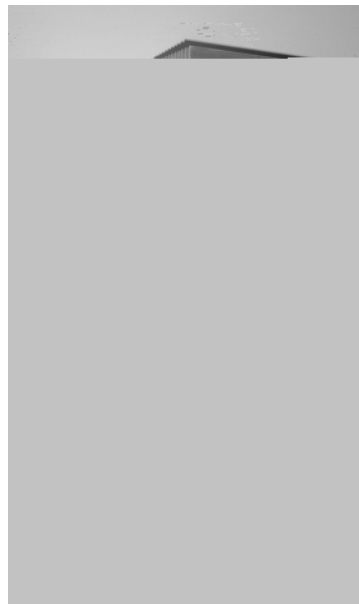

Figure 4: Mounted StarInverter with Mounting Brackets in place.
8. Screw in the bottom screws of the bottom bracket to anchor the bracket to the wall. Refer to Figure 4.